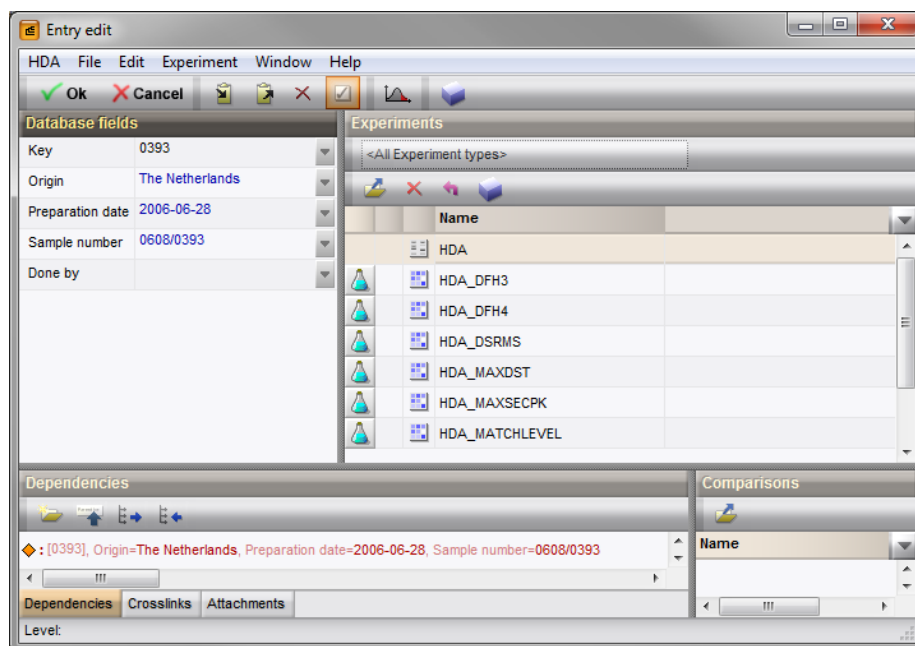

Figure 4.1: The *Entry* window.
- 3.1 By double-clicking, or pressing **Enter** on a database entry, the *Entry* window appears (see Figure 4.1). Right-clicking on the entry, and selecting *Open entry* also works.
- 3.2 Enter some information in each of the fields (see Figure 4.1).